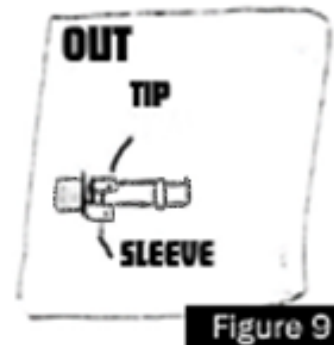

Figure 9
11. Solder a wire onto the Tip and Sleeve of the Output jack as shown in figure 9.